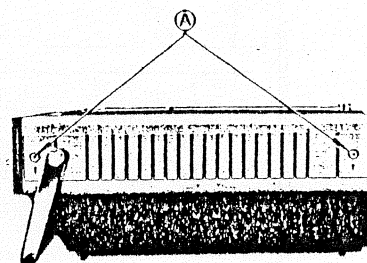
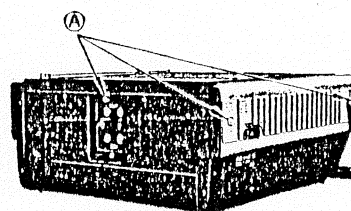

Fig. 6
Fig. 7
1. Remove 5 mounting screws (A) shown in Fig. 6 and Fig. 7.